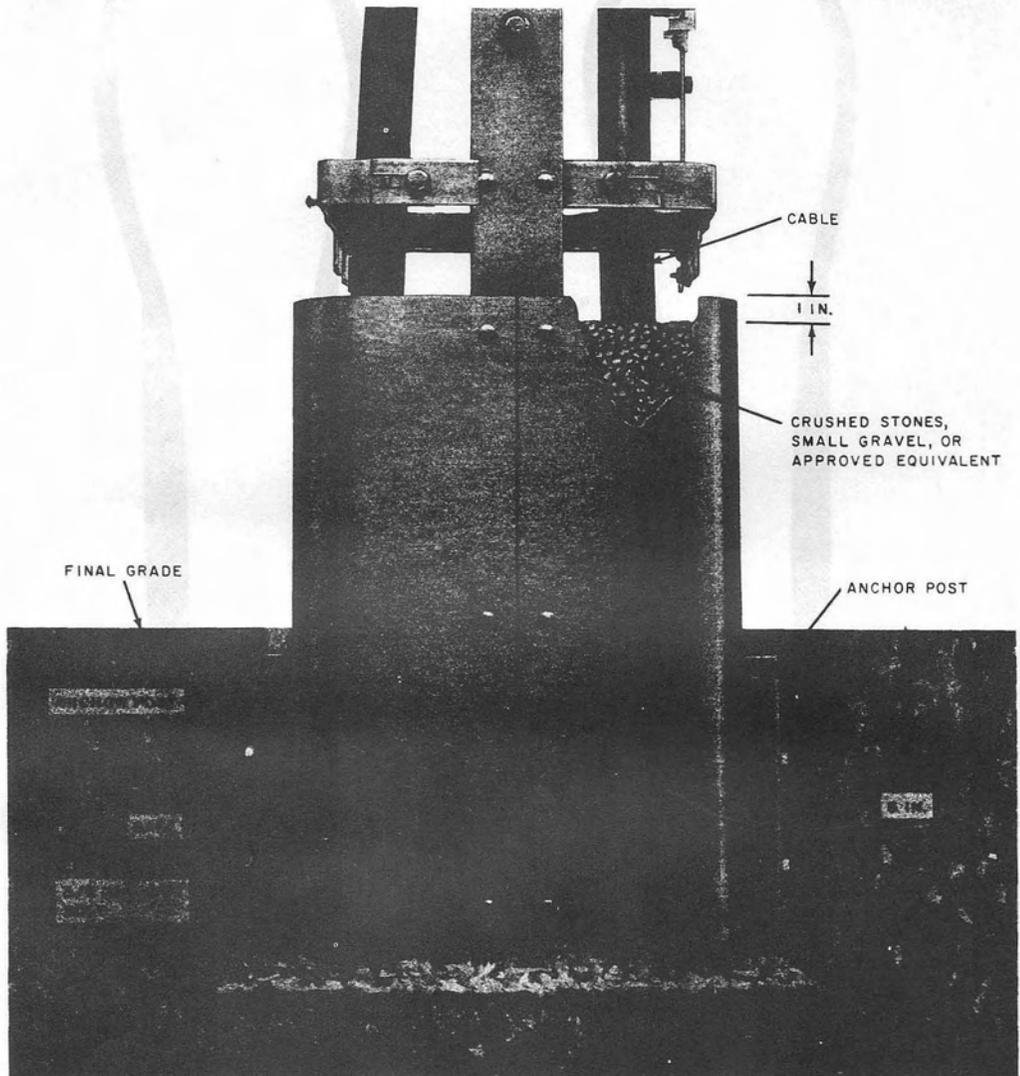

Fig. 16—LD- or LE-Type Closure Placed
- 5.04 The closure should be placed with the base centered in the excavation and the anchor posts perpendicular to the cable path. The cable enters the closure through the base. Fig. 16 illustrates a closure in place. Fill the base to about one inch from the top with crushed stone, gravel, or approved equivalent (Fig. 16). This helps to